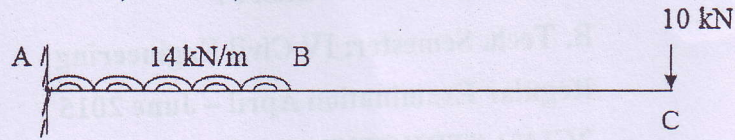

Figure 3
- Que. - 2 (A) A cantilever beam is 4 m long and has a point load of 5kN at the free end. The flexural stiffness is 53.3 MNm^2 . Calculate deflection at the free end with Moment Area Method. 04
- (B) A Propped cantilever beam of 6 m long and has a point load of 10kN at the mid span of beam. The flexural stiffness is 110 MNm^2 . Draw BMD by using Consistent Deformation Method 04
- (C) Find deflection at free end as shown in figure 3 with Conjugate Beam Method. $AB=3\text{m}$, $BC=4\text{m}$, Take $EI=40000\text{ kNm}^2$ 04